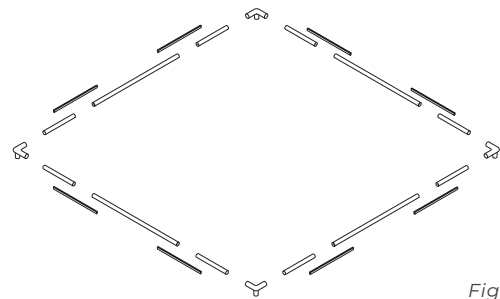

Figure 1b
2. Lay all the horizontal tubes between the corner pieces and connect them together using the connector rods. See figure 1b.